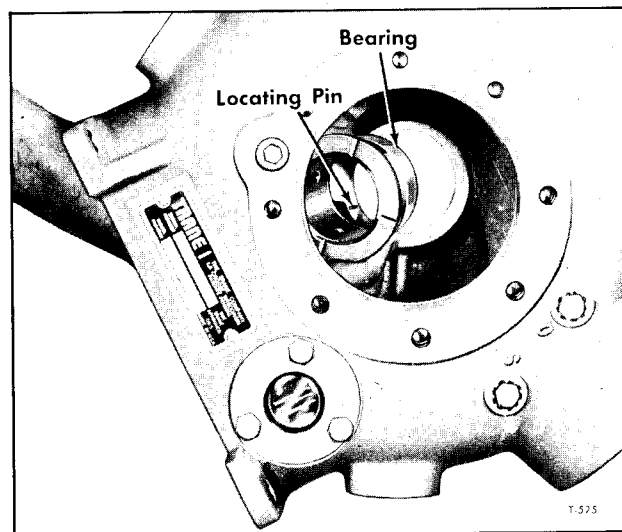

Figure 44—Replacing Seal End Bearing
2. Pull the seal end bearing (16) toward the pump-end of the housing to remove (fig. 44).
1. Insert the seal end bearing (16) into position with hole in bearing located over locator pins as shown in figure 44.
2. Guide the crankshaft (14) into housing and into end bearing. Reach through the handhole opening to support the crankshaft.
3. Install the pump end bearing head (11) and check crankshaft end play with a feeler gauge or dial indicator.